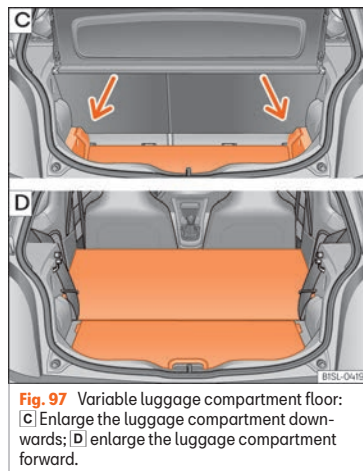

Fig. 97 Variable luggage compartment floor:
- Lift the luggage compartment floor and push it down on the guide »» Fig. 97 [C] (arrows).
- If necessary, place the luggage compartment floor at a lower position »» Fig. 97 [C].
The luggage compartment is enlarged forward »» Fig. 97 [D].